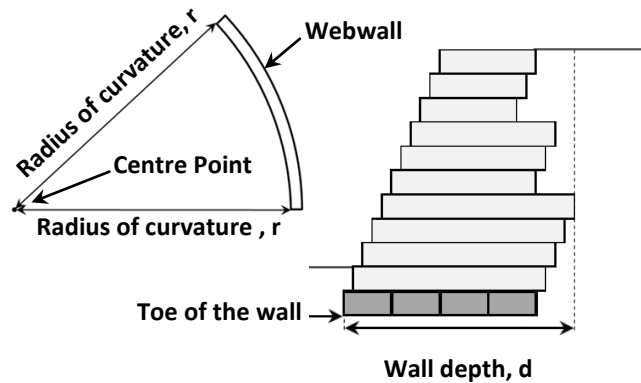

Fig. 1: Definitions
- Radius of curvature of wall, 'r' (Fig. 1).
- Wall depth, 'd' (Fig. 1).